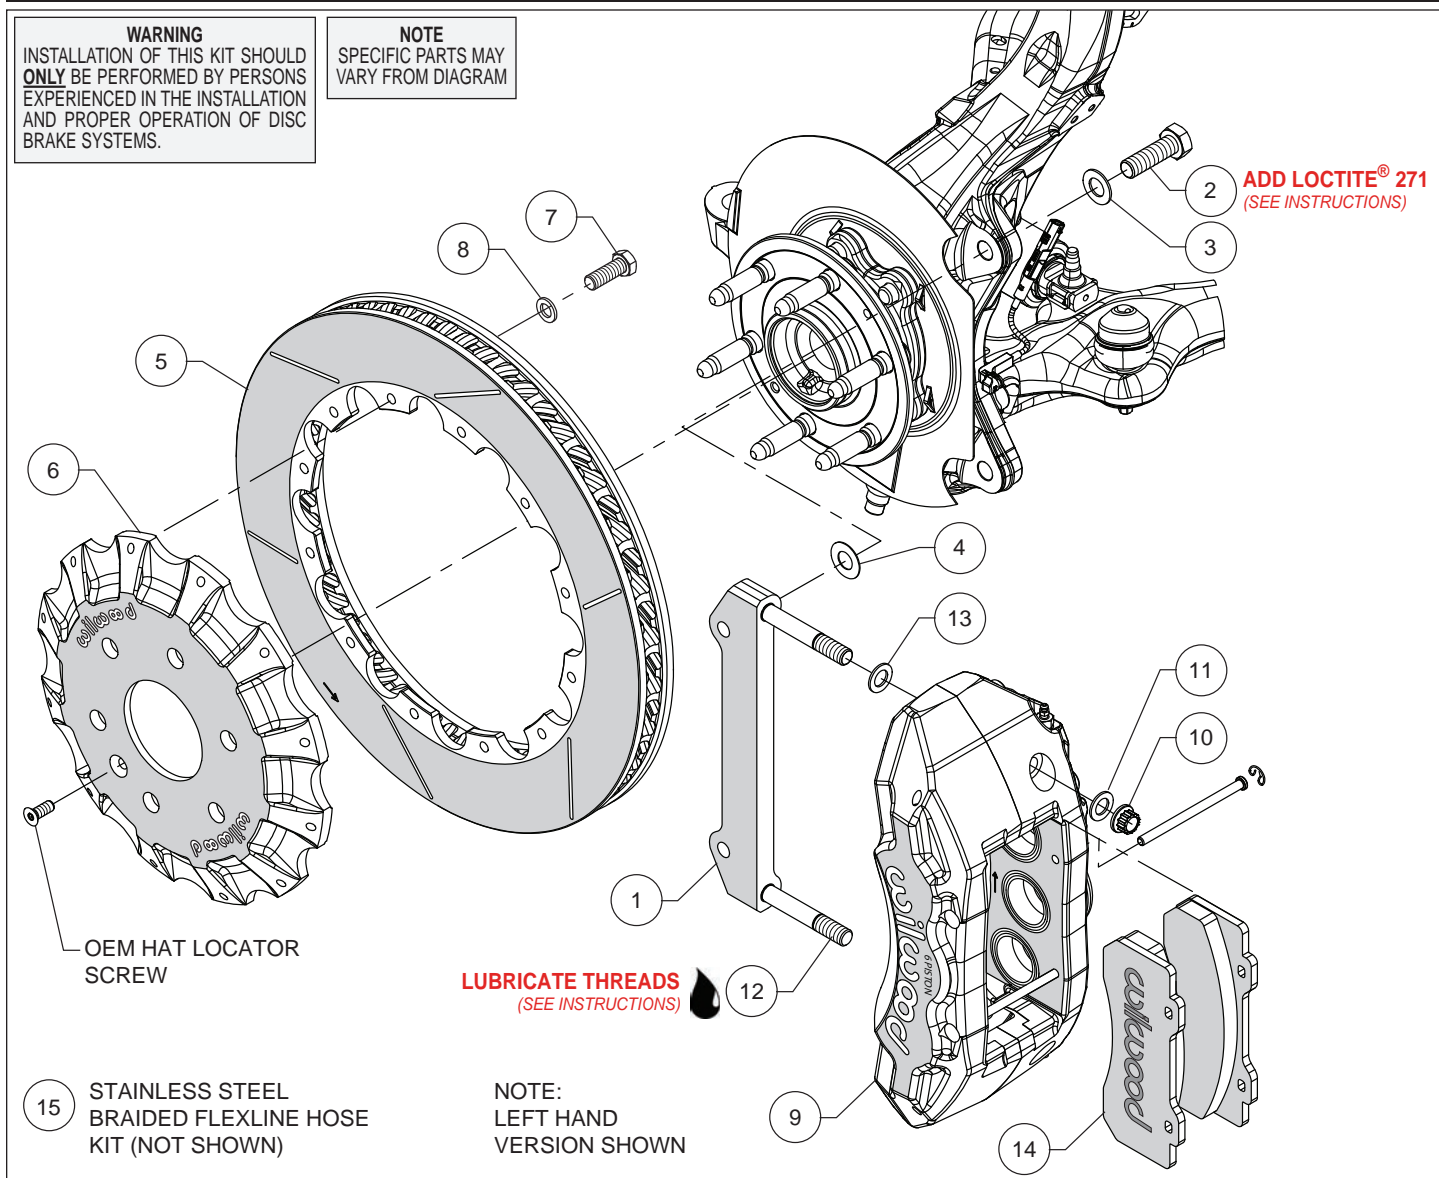
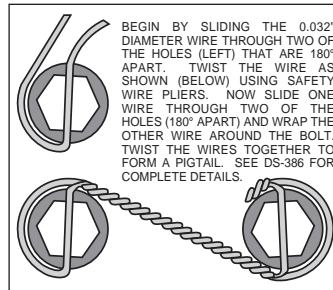

Figure 1. Typical Installation Configuration
Figure 3. Safety Wire Diagram
**Assembly Instructions** (numbers in parenthesis refer to the parts list and Figure 1 on the preceding pages):
- The caliper mount bracket (1) should initially be installed with clean, dry threads on the mounting bolts. Orient the bracket as shown in Figure 1, and install using bolts (2) and washers (3). Initially place one .029 thick shim (4) on each bolt between the bracket and upright, Figure 1. Temporarily tighten the mounting bolts. **NOTE:** The bracket must fit squarely against the mount bosses on the upright. Inspect for interference from casting irregularities, machining ridges, burrs, etc. **NOTE:** Some aftermarket uprights may require modifications to the mounting lugs to fit the new caliper bracket. Later, after the caliper alignment has been checked, the mount bolts will be secured using red *Loctite*® 271.
- Orient the rotor (5) and the hat (6) as shown in Figure 1 and Photo 2. Attach rotor to hat using bolts (7) and washers (8). Using an alternating sequence, torque to 25 ft-lbs. For an added measure of security, the bolts may be safety wired using standard 0.032 inch diameter stainless steel safety wire as shown in Figure 3. Please refer to Wilwood's data sheet DS-386 (available at [www.wilwood.com/Pdf/DataSheets/ds386.pdf](http://www.wilwood.com/Pdf/DataSheets/ds386.pdf)) for complete safety wire installation instructions.
- NOTE:** This kit contains distinct right and left hand calipers that must be mounted in a specific direction, as described below. Lubricate the caliper mounting studs (12) with lightweight oil. Initially place one .032" thick shim (13) on each stud as shown in Figure 1 and Photo 3. Mount the caliper (9) onto the bracket (1) using lock nuts (10) and washers (11), Figure 1. Ensure that the caliper is mounted so that the largest pistons are at the rotor exit end of the caliper, in relation to the direction of rotor rotation. Temporarily tighten the lock nuts and view the rotor through the top opening of the caliper. The rotor should be centered in the caliper, Photo 4. If not, adjust by adding or subtracting shims (4) between the bracket and the upright. Always use the same amount of shims on each of the two mounting bolts. Once the caliper alignment is correct, remove the bracket mounting bolts (2) one at a time, apply red *Loctite*® 271 to the threads, and torque to 77 ft-lb.